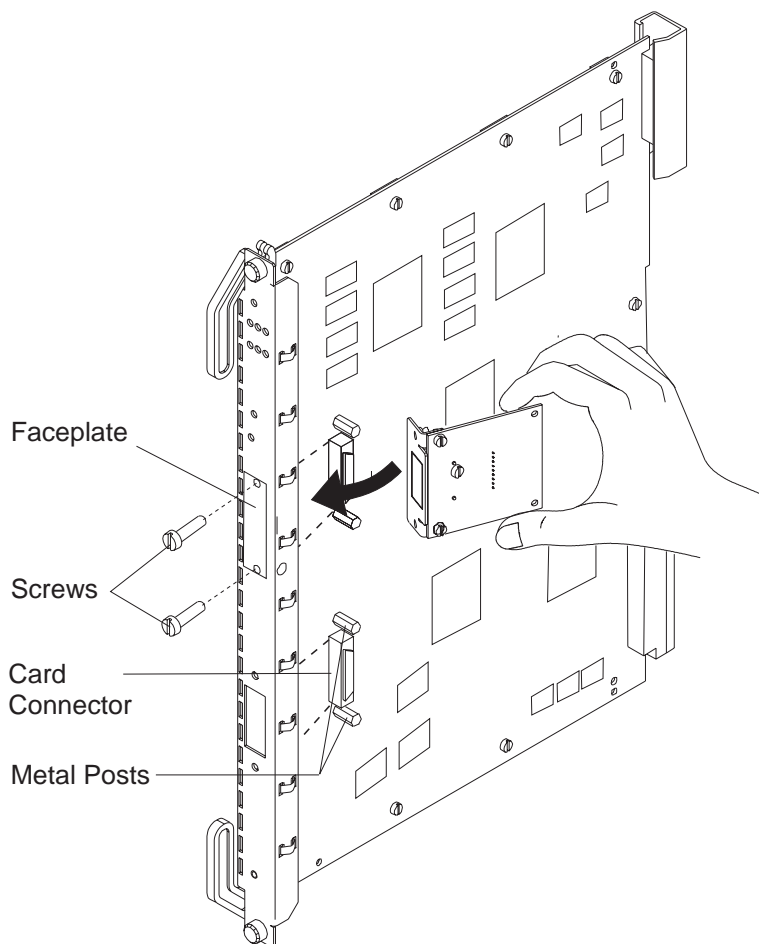

Figure 6. Installing a Daughter Card on the ATMflex Motherboard
1. If necessary, remove the two screws and faceplate that cover the ATMflex port on the front panel of the motherboard (see Figure 6 on page 36). Put the screws and faceplate in a safe place.
Warning: When installing a daughter card on the motherboard, be careful not to touch its components. Always hold the card by the faceplate or by its edges as shown in Figure 6.